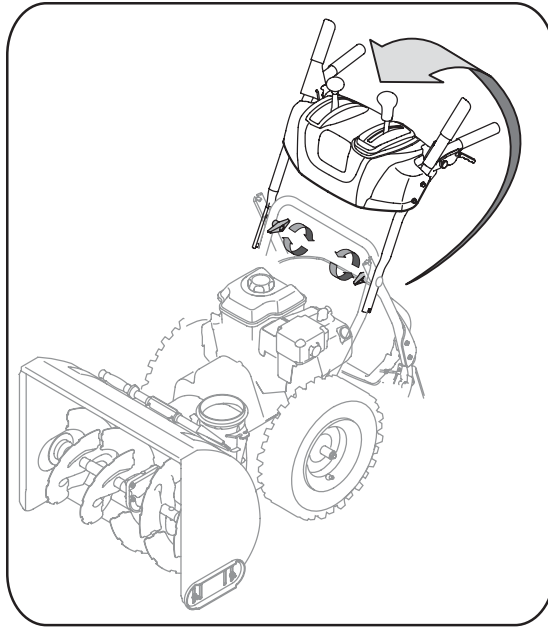

Figure 3-1
1. Observe the lower rear area of the snow thrower to be sure both cables are aligned with roller guides. Pull up on the upper handle, align the upper handle with the lower handle. See Figure 3-1.